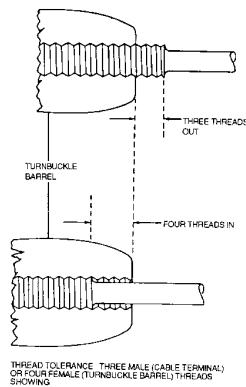

Figure 2-73. Turnbuckle Thread Limits
- a. Turnbuckle Installation. When installing cable system turnbuckles, screw both threaded terminals an equal distance into barrel. All terminals must be screwed into the barrel far enough that no more than three terminal threads or four barrel threads are exposed on initial installation of a cable assembly. These limits are shown in figure 2-73. The maximum of four exposed barrel threads applies only to the initial installation of the cable so that if the cable stretches, the turnbuckle can be adjusted to the desired cable tension, at which time more or less than four barrel threads may be exposed. AN series turnbuckles are lockwired as follows:
- (1) Adjust turnbuckle to its locking position.
- (2) Pass two locking wires through the center of the turnbuckle barrel.
- (3) Bend the ends of the wires 90 degrees toward the ends of the turnbuckle barrel.
- (4) Pass the wire ends through the hole in the turnbuckle eyes between the jaws of the turnbuckle fork.
- (5) Bend the wires back toward the center of the turnbuckle and wrap four times around the shank.
- (6) When a swaged terminal is being lockwired, one wire is passed through the hole provided for in the terminal, looped over the free end of the other wire and both ends wrapped four times around the shank.
- (7) MS series turnbuckles are locked with MS21256 locking clip MS21251 turnbuckle bodies are slotted internally to accept the MS21256 locking clip.